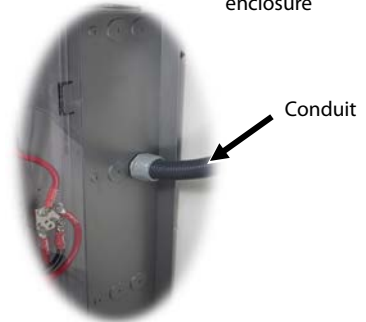

Figure 7 Bus and Load Cabling
6. The rack is equipped with cables for each shelf (positive on the right, negative on the left). Connect each cable to the appropriate side of each battery string. The cables lead to separate buses on each side of the rack that place each string in parallel. (See Figure 7.)